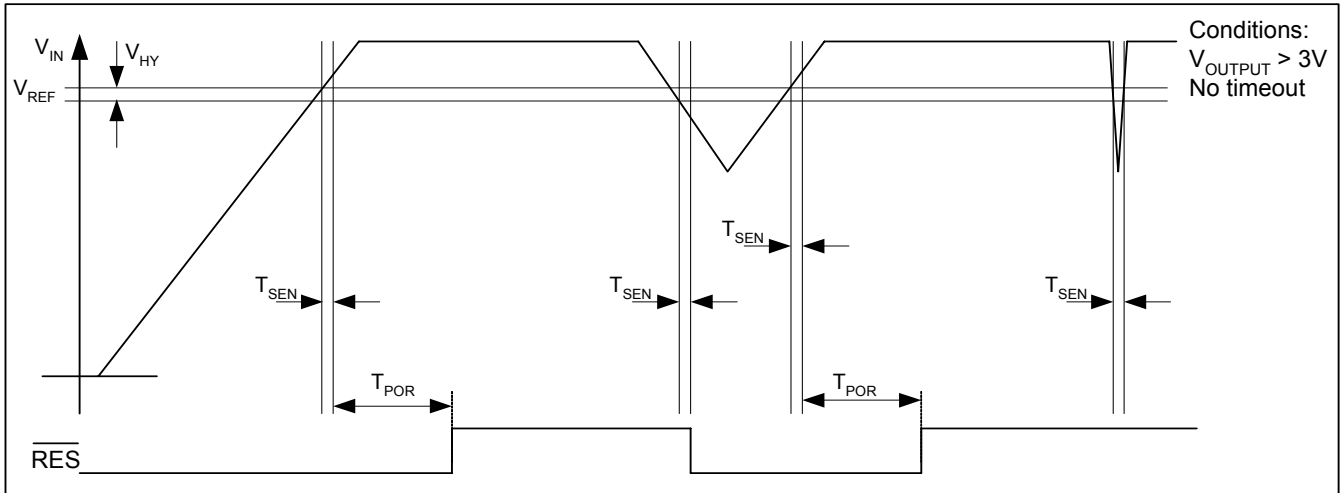

Fig. 5
- Note 5:** the comparator reference is the power-down reset threshold. The power-on reset threshold equals the comparator reference voltage plus the comparator hysteresis (see Fig. 5).
At power-up the reset output (\overline{RES}) is held low (see Fig. 5). When V_{IN} becomes greater than V_{REF}, the \overline{RES} output is held low for an additional power-on-reset (POR) delay T_{POR} (defined with the external resistor connected at R_{OSC} pin). The T_{POR} delay prevents repeated toggling of \overline{RES} even if V_{DD} voltage drops out and recovers. The T_{POR} delay allows the microprocessor's crystal oscillator time to start and stabilize and ensures correct recognition of the reset signal to the microprocessor.